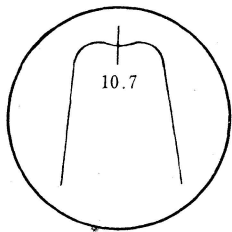

Figure 9
- b) Set the frequency of the sweep generator to 10.7 MHz and apply its output. Adjust  $T_{101}$  until the scope pattern illustrated in Fig. 9. is available.